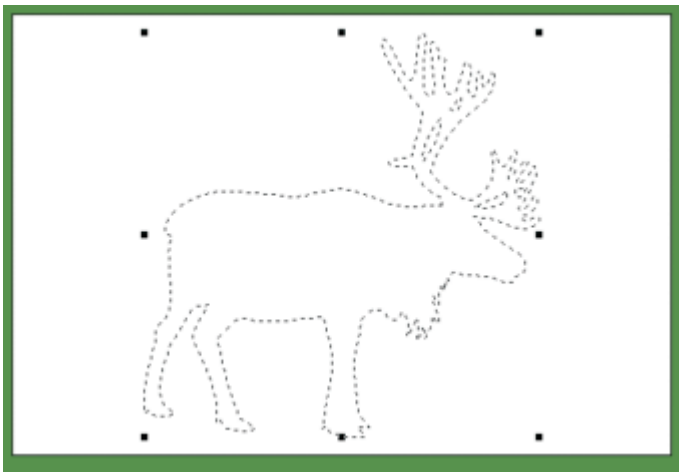

Figure 2
- 2 Holding the left mouse button drag a box around your logo, it will go Dotty see Figure 2. From the Main Toolbar select the Shading 45° Icon.